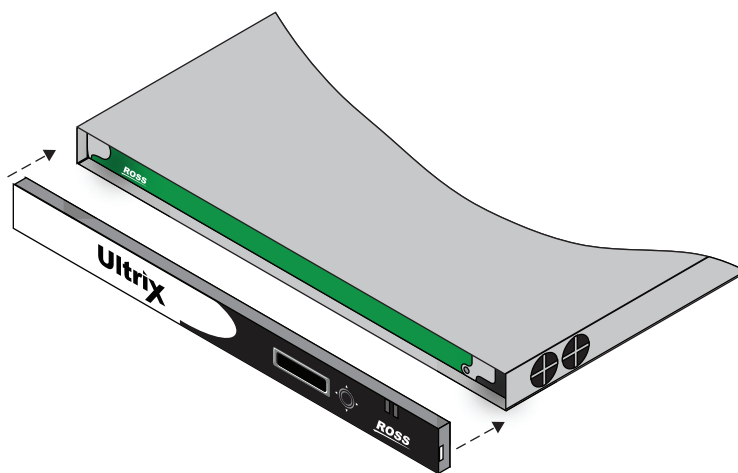

Figure 7 Front Panel — Aligning the Door to the Chassis
1. Align the door to the front of the router, ensuring that the door is oriented upright, the corner with the Ultrix logo is in your left hand, and the corner with the Ross logo is in your right hand. (Figure 7)